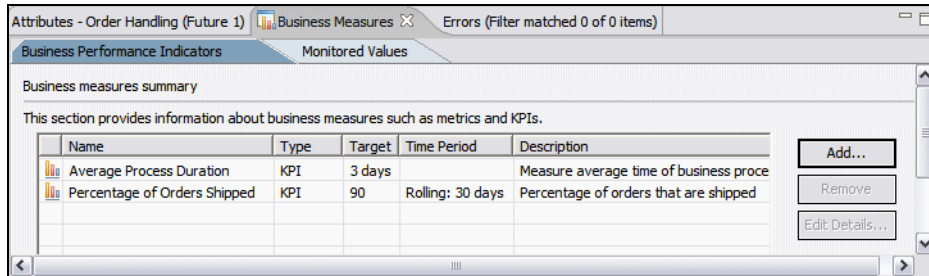

Figure 9-15 Percentage of Orders Shipped KPI Created
- ▶ Click *OK* and the KPI is created (Figure 9-15).